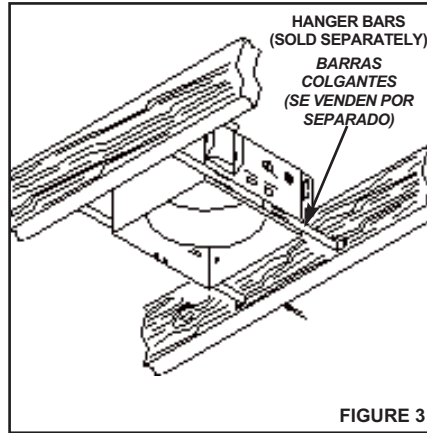

FIGURE 3
**(Hanger bars sold separately, order model HB4) Refer to Figure 3.**